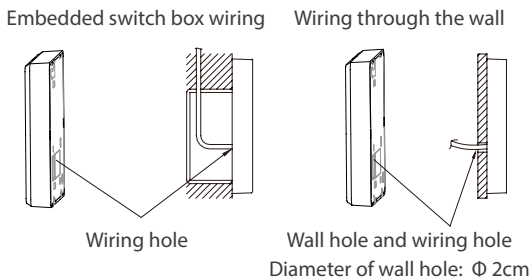

Fig. 6
- b. For shielded wiring, please refer to Fig. 6.